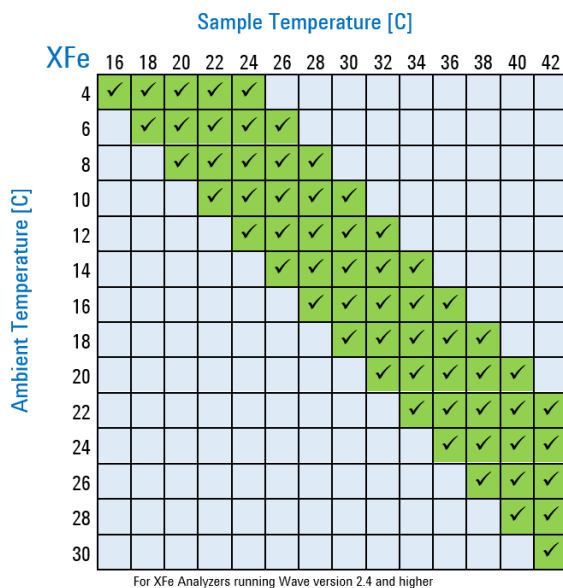

Figure 10. Temperature chart
Agilent Seahorse XFe Analyzers have been validated to deliver desired target temperatures in the range of 16-42 °C, provided the ambient room temperature is 12-20 °C below the target temperature, and in the validated operational room temperature range of 4-30 °C. To understand the relationship between the desired sample temperature and required ambient temperature, see the temperature chart in **Figure 10**.
- 2 Ensure your ambient conditions support the desired target temperature (12-20 °C above ambient). (See the temperature chart shown in **Figure 10** on page 30.)